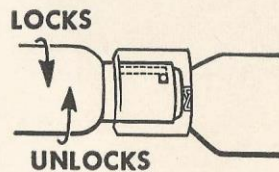

Fig. 5
**To remove lamp.** Do not attempt to unscrew lamp. Press it into socket and at same time turn it over in direction shown in Fig. 5 to unlock pin **A**. Then withdraw lamp.
slot of socket and turn it over in direction shown in Fig. 5 to lock pin **A** in position.